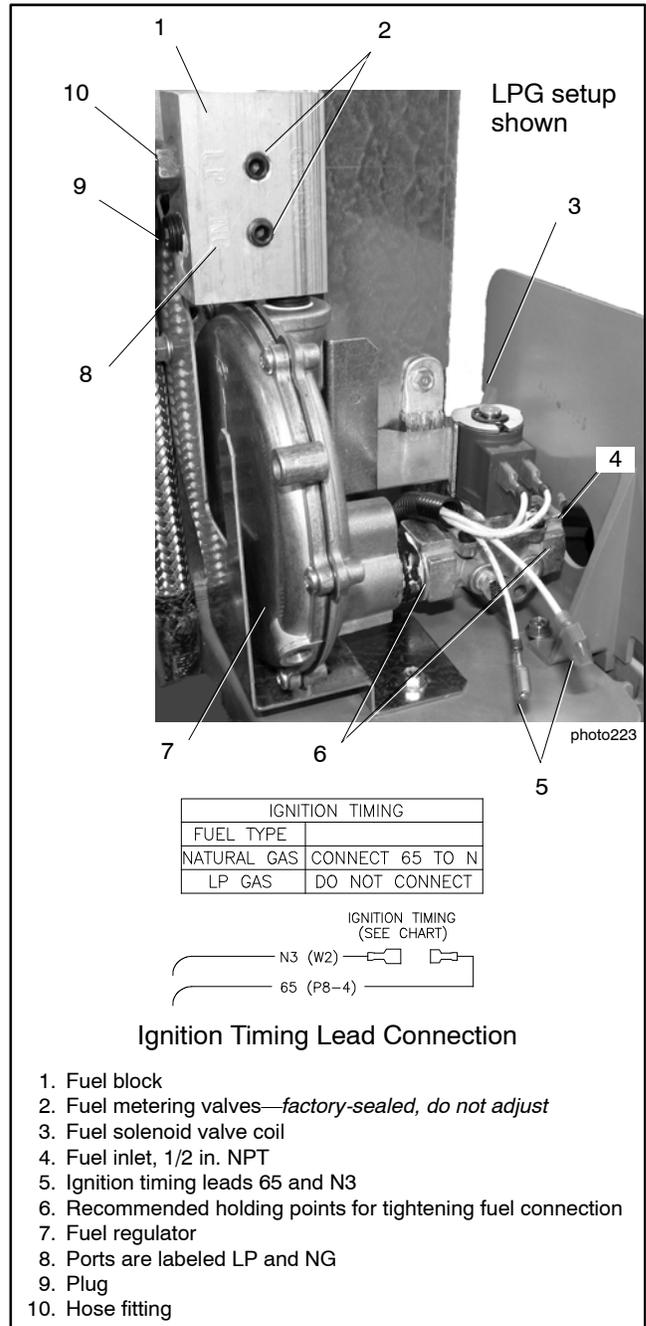

Figure 1-9 Fuel System, 14RESA/RESAL Equipped with Fuel Block (built before June 26, 2014)
Note: Model 14RESA/RESAL generator sets built before June 26, 2014 use a fuel block for the fuel type selection. See Figure 1-9 and use the instructions in this section for fuel conversion.
Use the following procedure to convert from natural gas (NG) to LPG. See Figure 1-9 for the fuel system component locations.
5. Remove the hose clamp and fuel hose from the hose fitting in the fuel block. See Figure 1-9.
6. Remove the hose fitting from the natural gas outlet port in the fuel block. See Figure 1-9.
7. Remove the plug from the LP port in the fuel block. See Figure 1-9.
11. Disconnect digital ignition timing leads 65 and N3 for LPG. The ignition timing leads are located near the fuel solenoid valve. See Figure 1-9.
To convert from LPG to natural gas, follow the fuel conversion procedure above, moving the hose fitting to the natural gas port and plugging the LP port. Connect the DSAI leads for natural gas. See Figure 1-9.
Note: Model 14RESA/RESAL generator sets built before June 26, 2014, use a fuel block for the fuel type selection. See Figure 1-9 and use the instructions Section 1.8.1 for fuel conversion.